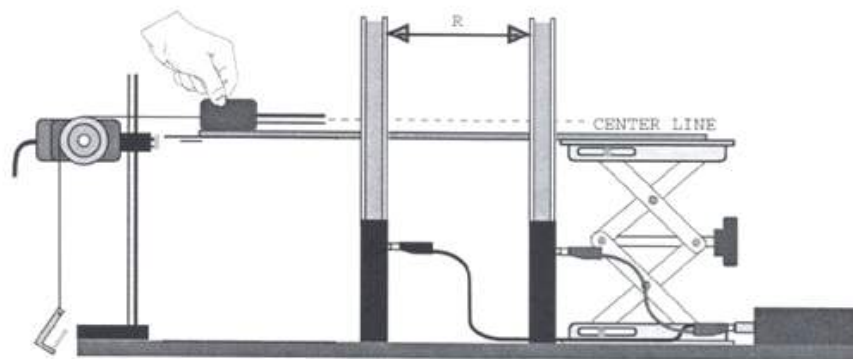

Figure 4. Experimental setup for the Helmholtz coil.
- ① Connect the DC power supply directly across the Helmholtz coil (500turn, $\Phi 0.64\text{mm}$). To measure the current through the coil, connect the digital ammeter in series with the power supply and the coil. See Figure 4.
- ① Find the radius of the coil by measuring the diameter from the center of the windings on one side across to the center of the windings on the other side.
- ② Make sure the Helmholtz coils are parallel to each other. See Figure 4.